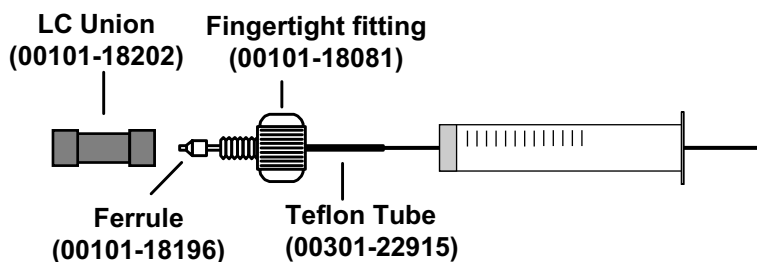

Figure 4-2. Syringe and syringe adapter assembly
- c. Remove the tip of the syringe needle from the end of the Teflon tube on the syringe adapter assembly. See Figure 4-2.
5. While holding the plunger of the syringe in place, carefully reinsert the tip of the syringe needle into the end of the Teflon tube on the syringe adapter assembly. See Figure 4-2.